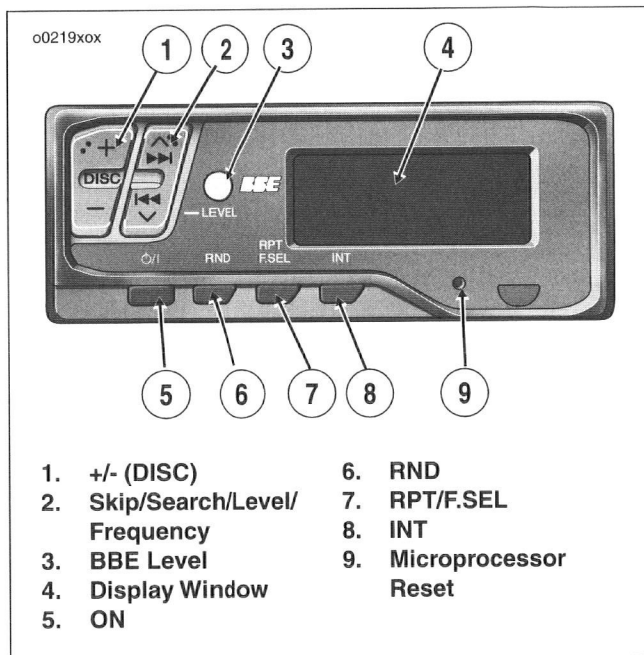

Figure 55. CD Controller
4. Open the TOUR-PAK lid and turn the CD Controller ON by pressing the CD Controller ON button (see Figure 55.).